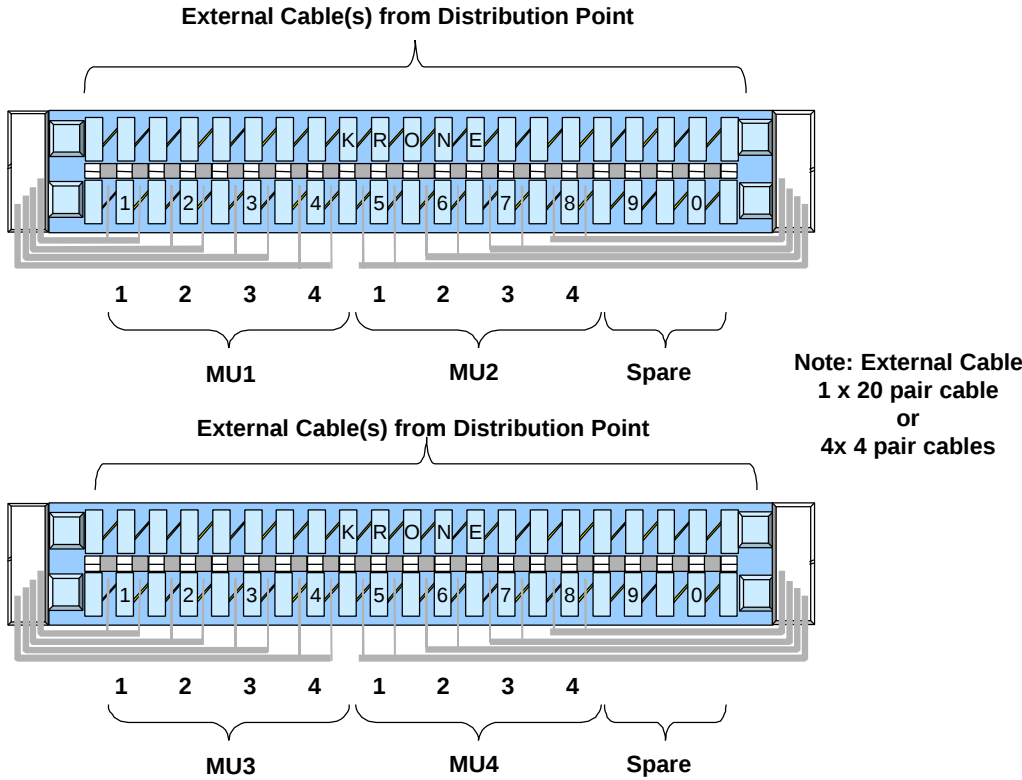

Figure 59. Krone Wiring
3. Strip the cable and pass the wires through the hole in the connector mounting panel to terminate on the top of each Krone block. Details of the cable termination are shown in Figure 59 and Table 7 cables